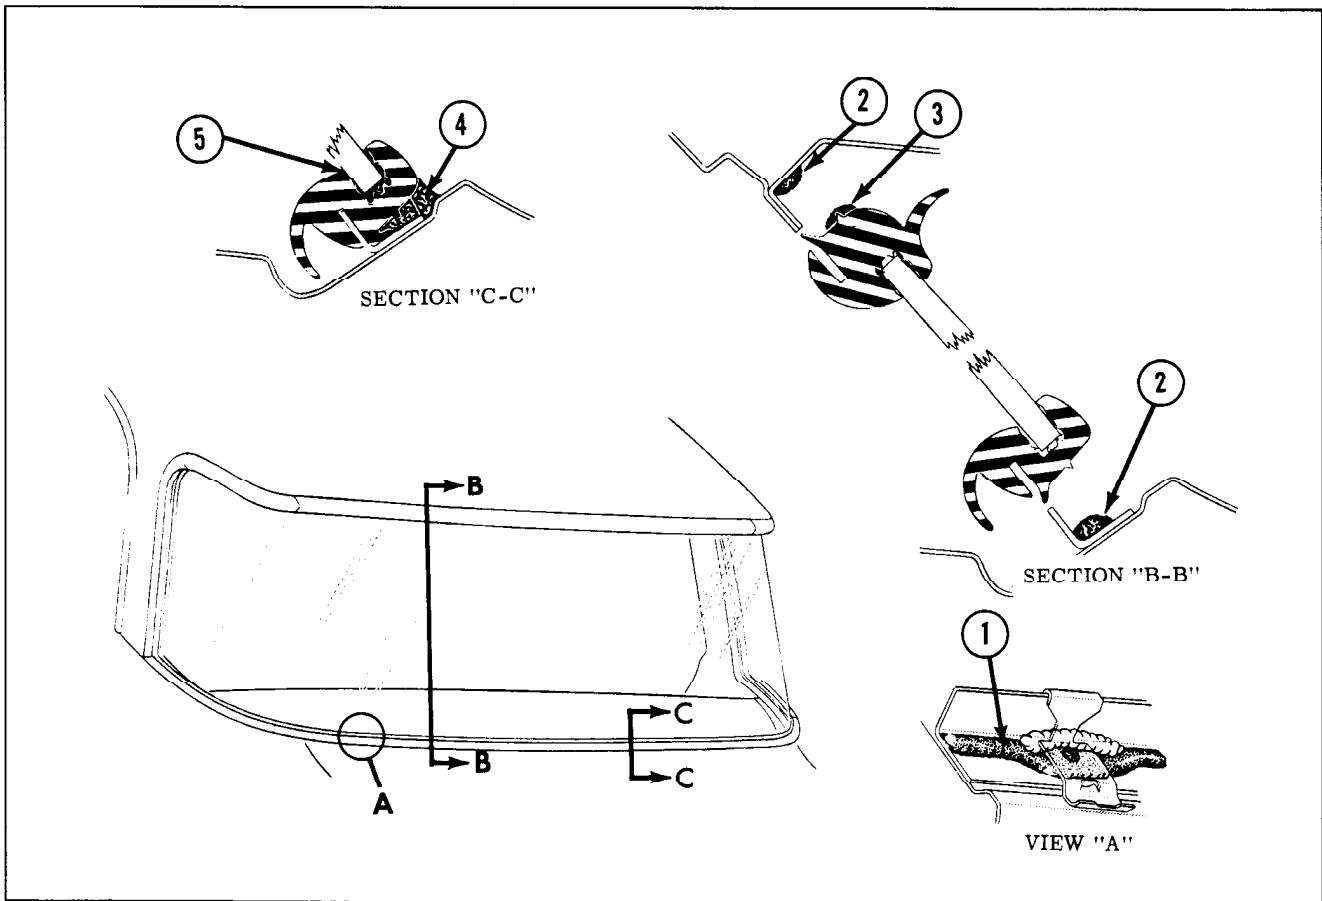

Fig. 17-83 Back Window Sealing (All 11, and 69 Styles)
2. Check installation of lower reveal molding clips at pinchweld and retaining flanges and replace clips, where necessary. If replacing clips, apply medium-bodied sealer to opening rabbet prior to installing clips. ("1", View "A", Fig. 17-83)
3. Apply a continuous ribbon of medium-bodied sealer (approximately 1/2" wide by 1/4" thick) on wall of rabbet completely around opening. ("2", Section "B-B", Fig. 17-83)
5. Apply a continuous ribbon of medium-bodied sealer (approximately 1/2" wide by 1/4" thick) to base of rubber channel across top and down sides of rubber channel. ("3", Section "B-B", Fig. 17-83)
8. Using a pressure type applicator, apply sufficient medium-bodied sealer to completely fill the wedge shaped opening between rubber channel and body across bottom of channel. ("4", Section "C-C", Fig. 17-83)
9. Using a pressure type applicator (pistol type oiler) apply weatherstrip adhesive (black) between rubber channel and glass on inside and outside of glass around entire perimeter of glass. ("5", Section "C-C", Fig. 17-83) Application of adhesive should be continuous with no skips.
around entire perimeter of glass. "5", Section "C-C", Fig. 17-83) Application of adhesive should be continuous with no skips.